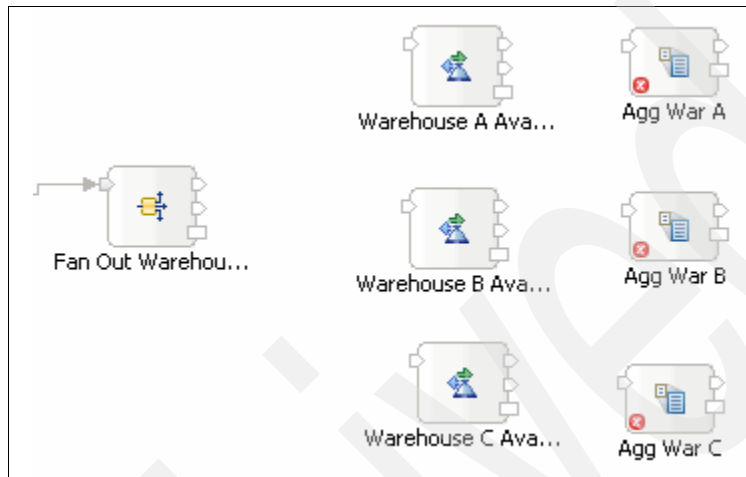

Figure 6-48 Aggregation transformation added to the mediation editor
6. Drag three XSL Transformation primitives next to the three Service Invoke primitives and change their display name, respectively, to Agg War A, Agg War B, and Agg War C, as shown in Figure 6-48.